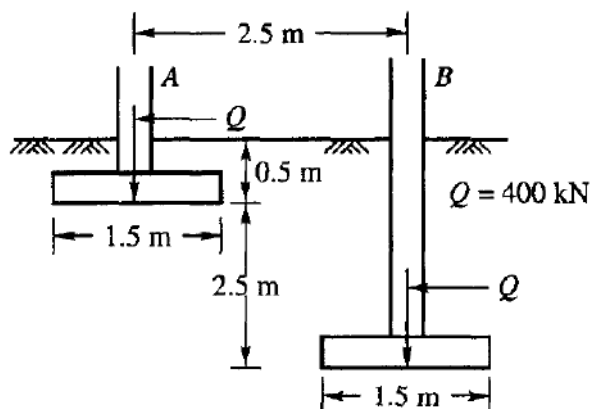

Figure:1.
- b) A and B are two footings of size 1.5 m x 1.5 m each placed in position as shown in figure 1. Each of the footings carries a column load of 400 kN. Determine by the Boussinesq method, the excess load footing B carries due to the effect of the load on A. Assume the loads at the centre of footings act as point loads. [7M]